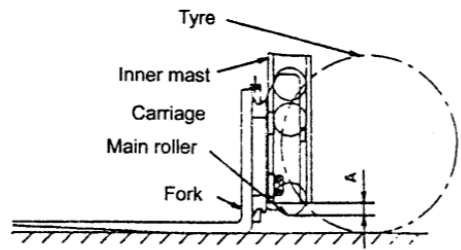

Fig.8.6
- (1) Park forklift on horizontal place and let mast vertical.
- (2) Put the bottom of fork onto ground, screw the adjustable nut at the end of joint and let main idler wheel come out 1/4-1/3 of its radius. See Fig8.6.